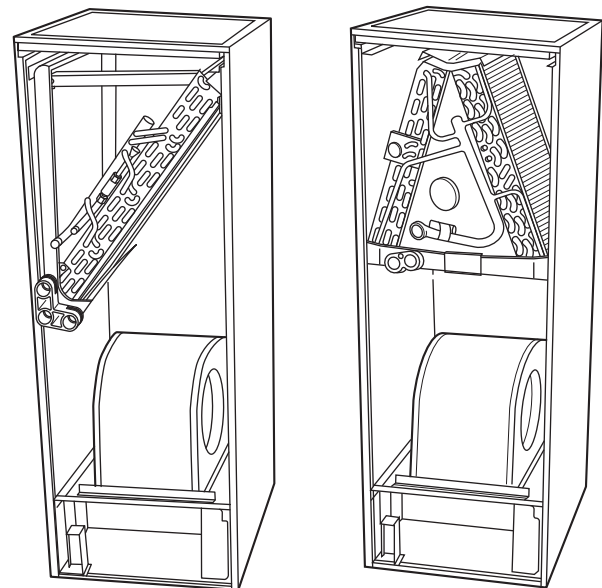

Fig. 3 - Completed Downflow Conversion
11. With fan coil in downflow position, slide coil assembly into unit. (See Fig. 3.)
7. Invert coil assembly and slide it into unit with drain pan to left side of fan coil. Secure coil assembly with screws. (See Fig. 3.)